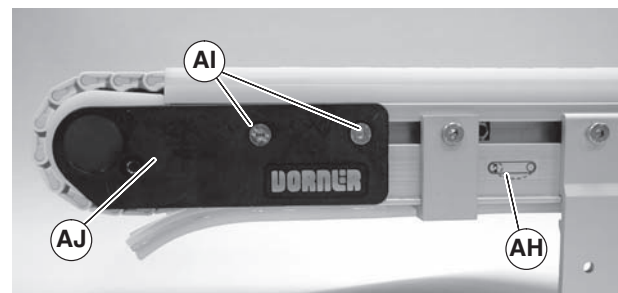

Figure 16
1. On idler end of the conveyor identified with a  label (Figure 16, item AH), loosen fastening screws (Figure 16, item AI) on both sides of conveyor. Push head plate assembly (AJ) inward.